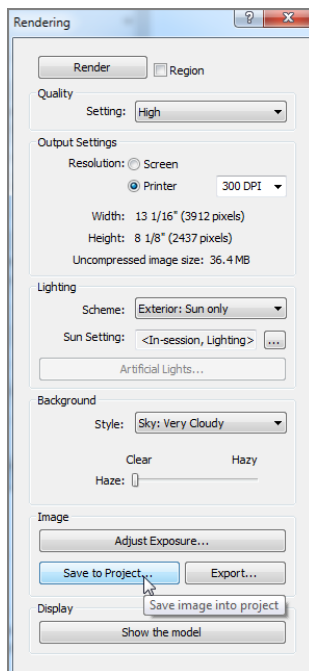

FIGURE 19.7: Saving the rendering to the project
1. In the Rendering dialog box, click the Save To Project button, as shown in Figure 19.7.